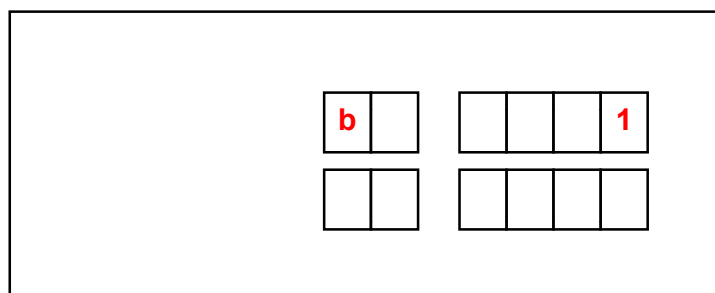

Figure 4.1
- Press [SYN] – panel displays as per Figure 4.1.